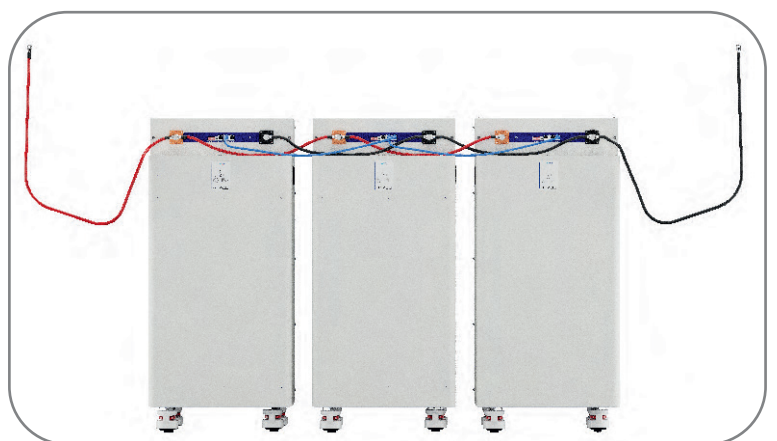

Figure 7.10
STEP 10: Connect the parallel connection power cables of the modules as shown in Figure 7.10.